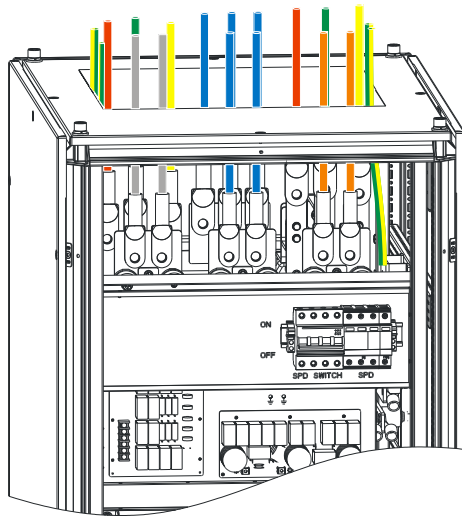

Figure3-30 Wiring diagram of IST6200, IST6300
Step 3 After finishing the wire connection, install the top cover, and then the wiring is completed. The wiring diagram is as shown in Figure3-30.